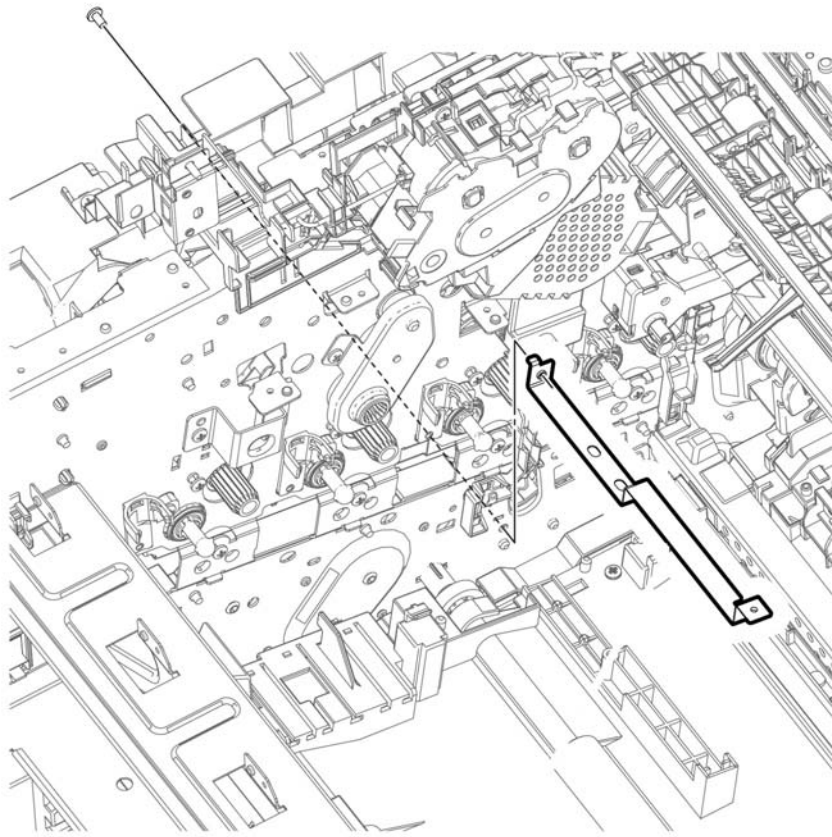

Figure 6 Remove the plate
5. Remove the one screw (SM18) attaching the plate and remove the plate, Figure 6.